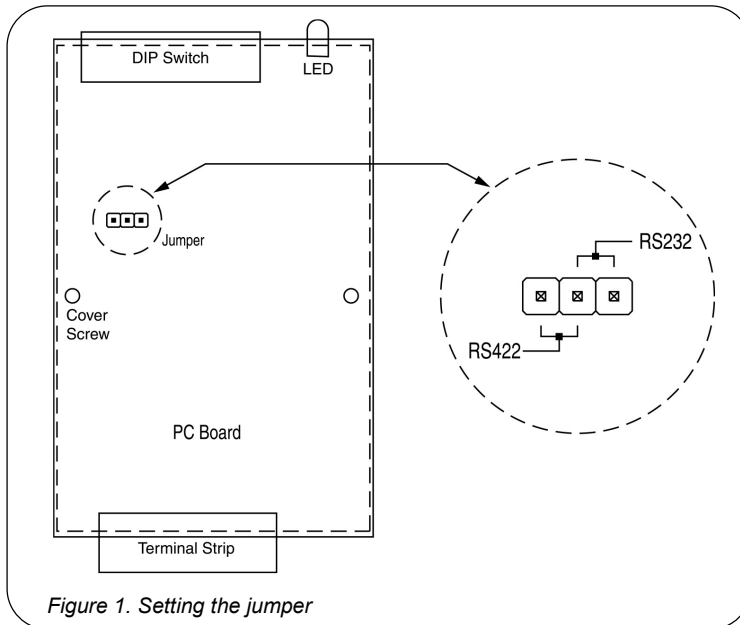

Figure 1. Setting the jumper
- 1) Remove the unit cover and locate the jumper on the PC card (see Figure 1).